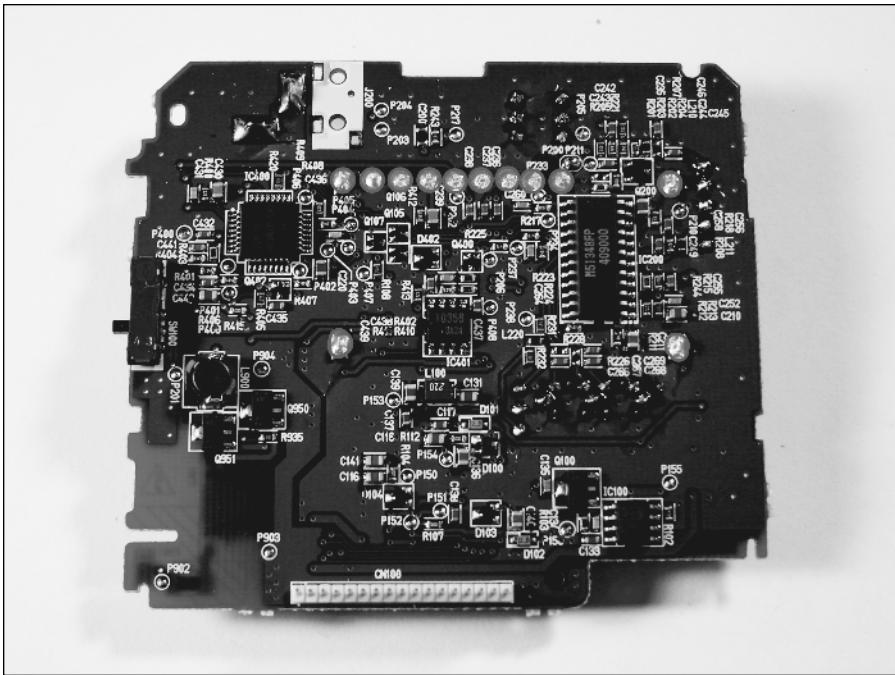

FIGURE 4-8: Desolder these leads to remove the TV tuner box.
3. Remove the TV tuner box by desoldering the leads from the upper circuit board indicated in Figure 4-8. Use a flat-head screwdriver to pry the box off after desoldering.